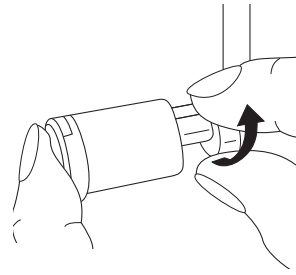

Fig. 92
- Adjust the movable upper blade **18** into a rest position (Fig. 92).